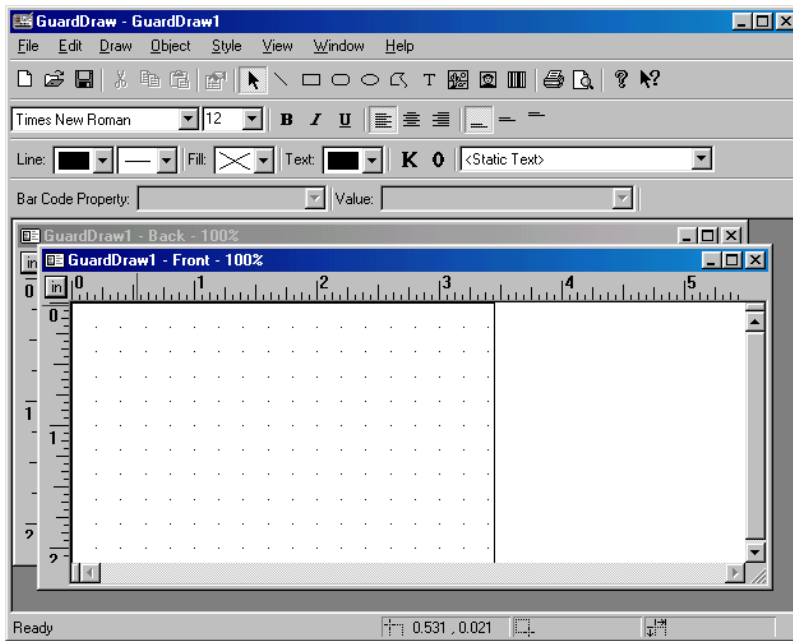

Figure 10: A New GuardDraw Template Window
3. A new GuardDraw template is now open (see Figure 10 on page 10).